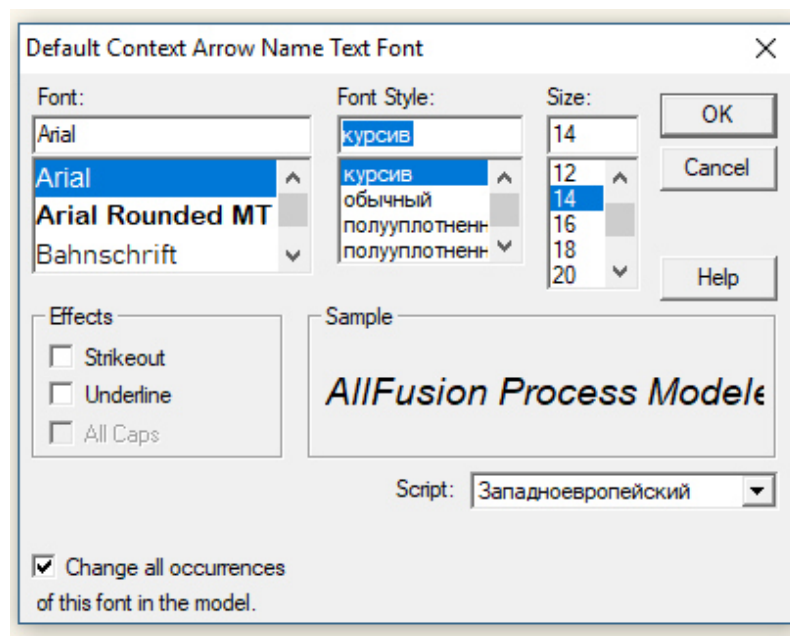

Fig. 1.15. The *Default Context Arrow Name Text Font* dialog box
7. Select **Arial Unicode MS** font, italic type, 14 pt (fig. 1.15).